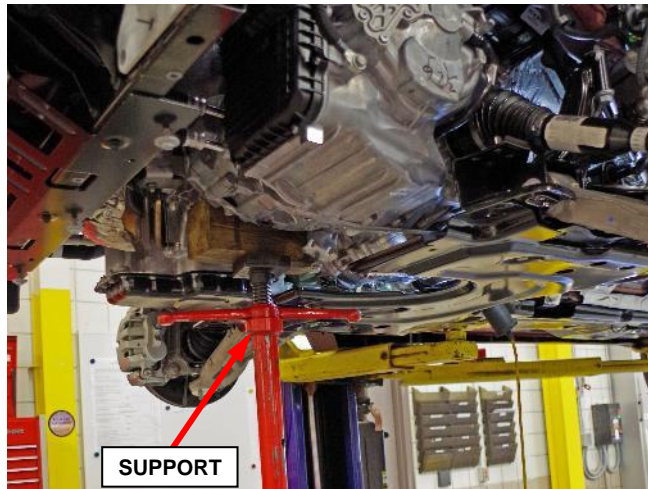

Figure 69 – Support Engine/Transmission
45. Support the engine/transmission assembly with a suitable stand (Figure 69).